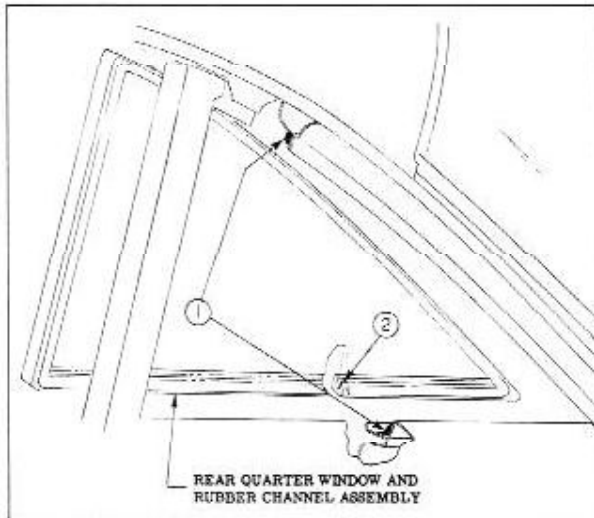

Fig. 17-59 Sealing Rear Quarter Window and Outer Panel Rabbet
5. To install, reverse removal procedure. Prior to installing quarter window glass and rubber channel, clean off old sealer from rubber channel and body opening to insure a smooth sealing surface. Apply a ribbon of medium-bodied sealer in corner of rear quarter side outer panel rabbet completely around window opening. (View "1", Fig. 17-59) After glass and rubber channel have been installed, apply a bead of weatherstrip cement between outer surface of the glass and rubber channel completely around the window and rubber channel. (View "2", Fig. 17-59) Clean off all excess sealer and cement.